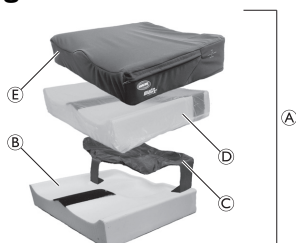

Fig. 1
1.6 Product components (Fig. 1)